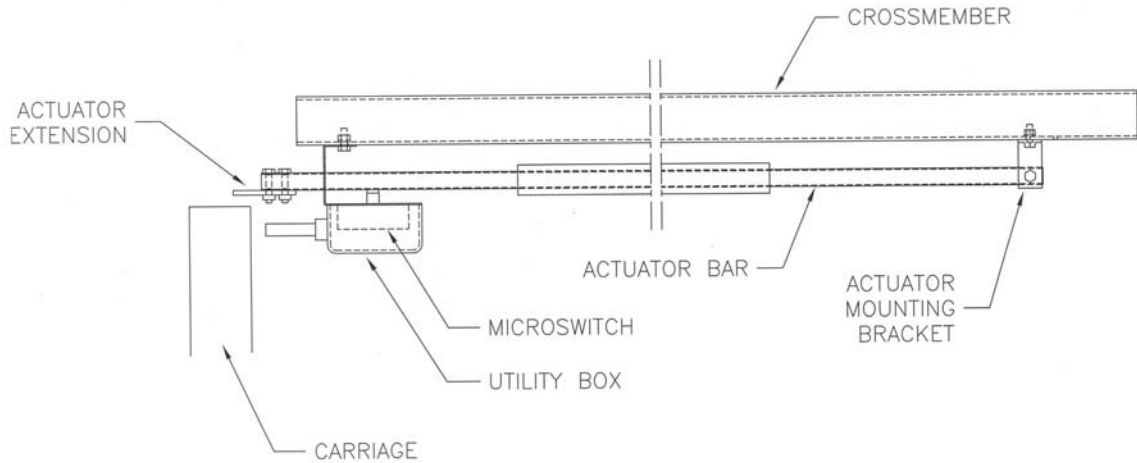

Figure 4A – Safety Shut-Off Bar Installation – 12ft.
2. Attach the Actuator Bar to the Actuator Mounting Bracket using one 1/4" NC x 1 1/2" lg. hex head bolt (6-0205), one 1/4" ID lockwasher (6-0056), and one 1/4" NC hex nut (6-0032). For 12ft. installations orient the actuator bar so that the single hole is used to mount the actuator bar to the bracket **Figure 4A**. Attach the actuator extension to